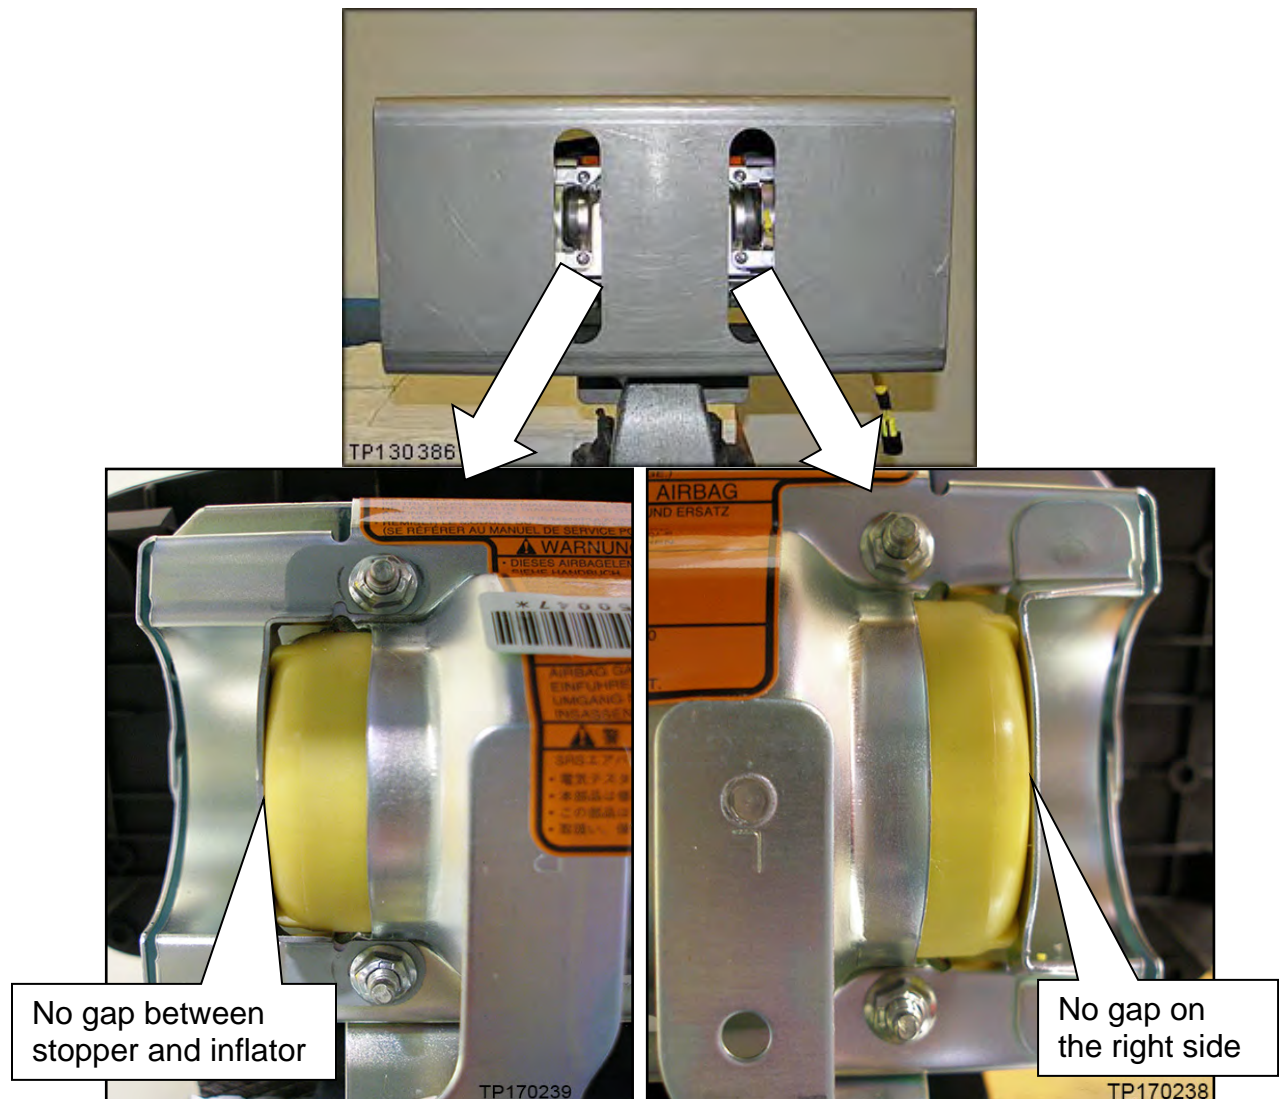

Figure 31
34. Install the four (4) inflator securing nuts finger tight (Figure 31).
35. Make sure the inflator is pushed all the way into its housing; no gap on the right side (Figure 31).
36. Make sure there is no gap between the inflator stopper and the inflator (Figure 31).